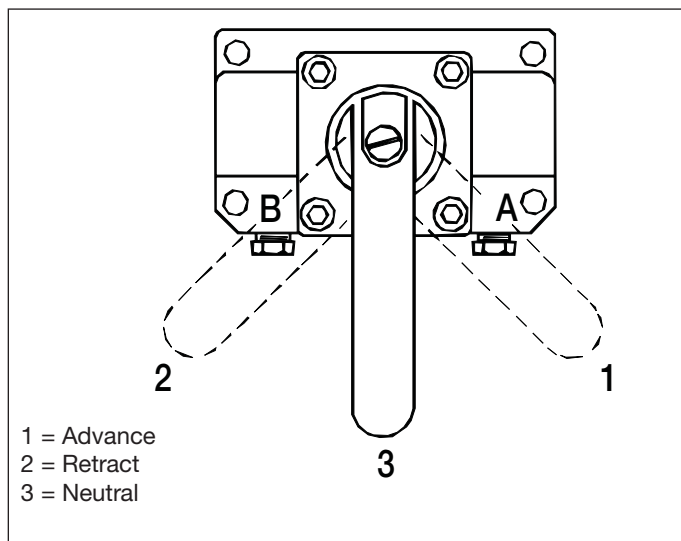
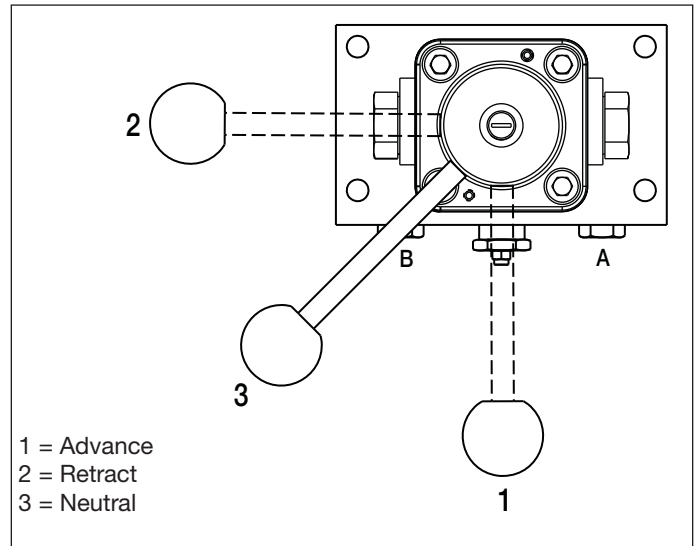

Figure 11, Valve Handle Positions, VM33, VM33L, VM43, VM43L
Figure 12, Valve Handle Positions, VM33M, VM43M
4. Rotate the control valve handle to the neutral ("3") position. See Figure 11 for VM33 and VM43 valve positions. See Figure 12 for VM33M and VM43M valve positions.
4. Rotate the control valve handle to the neutral ("3") position. See Figure 11 for valve positions.